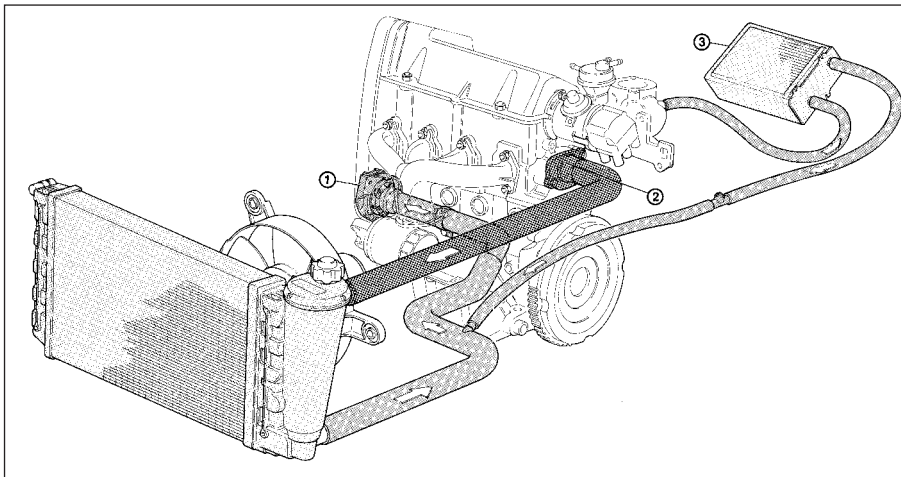

Fig. 13.26 Cooling system circuit - 999 and 1108 cc engines (Sec 8A)
**1** The operation and function of the cooling system is essentially as described in Chapter 2 but note the location of the various components and the routing of the coolant hoses in Fig. 13.26.